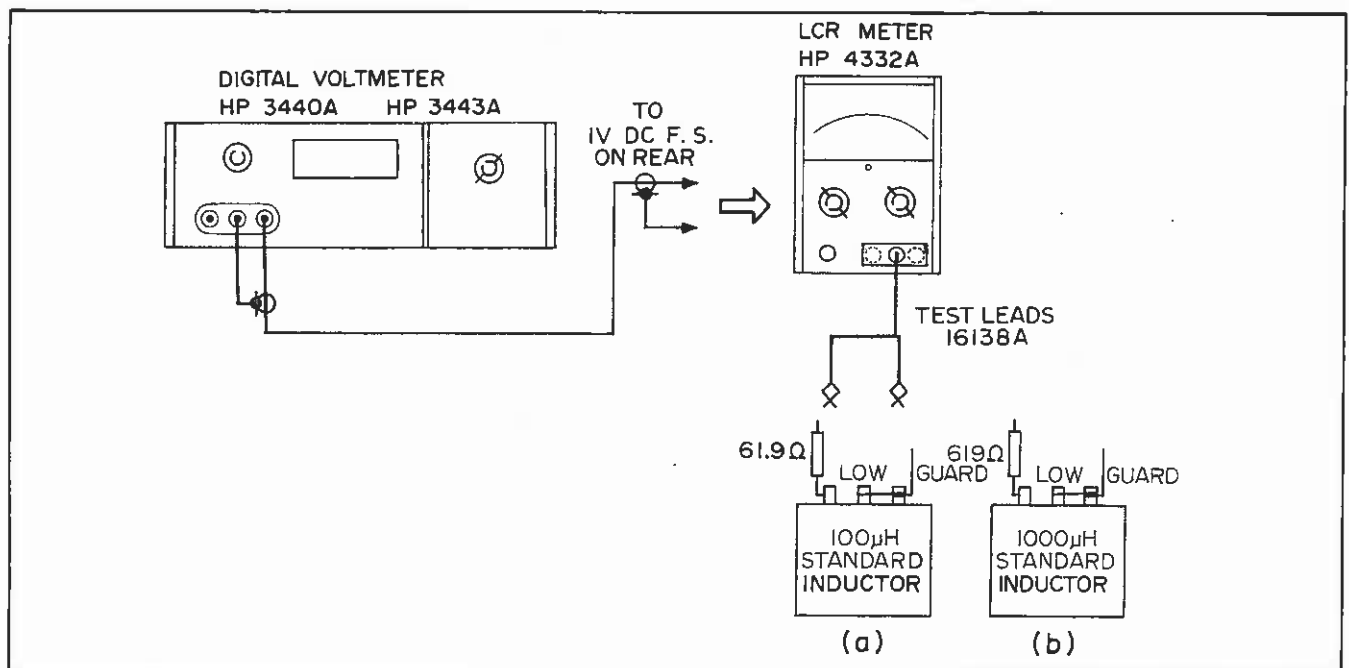

Figure 5-6. Inductance Measurement Adjustment
- a. Connect equipment as shown in Figure 5-6.
- c. Connect a 100 μ H standard inductor and a 61.9 Ω resistor (hp part No. 0757-0276) in series to UNKNOWN as shown in Figure 5-6(a). Adjust L ϕ (A2R1) for a DVM reading of 1000.0mV \pm 2.0mV. Disconnect inductor and resistors from UNKNOWN.
- d. Set RANGE to 1000 μ H. Connect a 1000 μ H standard inductor and a 619.0 Ω resistor (0757-0418) in series to UNKNOWN as shown in Figure 5-6(b). Adjust C2 for a DVM reading of 1000.0mV \pm 2.0mV.